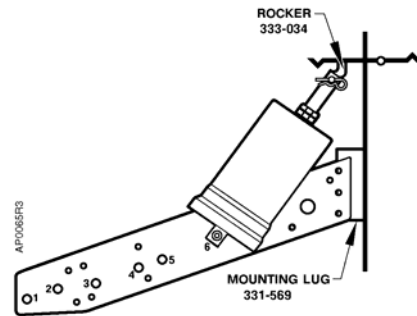

Figure 12. Frame Mounting Normally Open Damper.
- Normally open damper: Attach the plate to the lug (Figure 12). Place the pivot post in Hole 6.